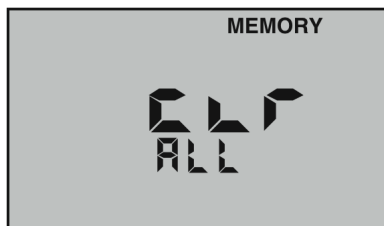

Figure 10
6. To clear **all** records: After pressing , scroll down. "**CLR ALL**" will be displayed (see Figure 10).